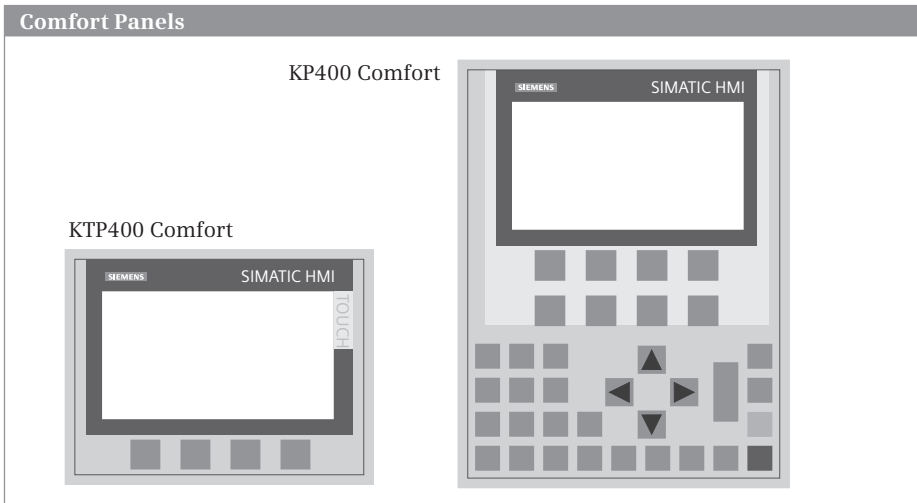

Fig. 7.4 Comfort Panels KTP400 Comfort and KP400 Comfort
SIMATIC HMI Comfort Panels are HMI devices with high-end functionality. They are available with dimmable widescreen displays with 16 million colors in the sizes 4", 7", 9", 12", 15", 19" and 22" with touch screen (TP) or with keys (KP), and the version KTP400 with touch screen and keys (Table 7.3). All function keys are equipped with LED and tactile feedback for additional reliability of operation. Fig. 7.4 shows the KP400 Comfort Panel and KTP400 Comfort Panel.